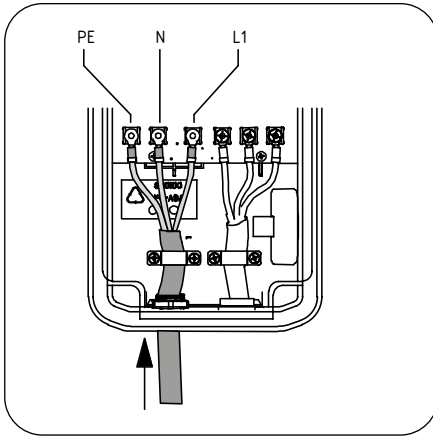

Figure 32
2. Connect the "L", neutral "N" and ground "PE" phase cables respectively (single-phase version, Figure 32) into the corresponding terminals with the M5x10 screws. Note: the fixing force for the screws is 2.8Nm.